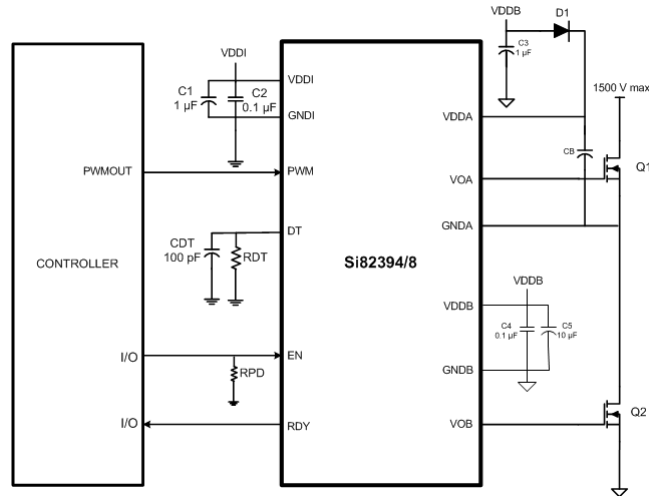

Figure 3.1. Si82394/8 Application Diagram
All high-side/low-side drivers (Si82394/8) include programmable dead time, which adds a user-programmable delay between transitions of VOA and VOB. When enabled, dead time is present on all transitions. The amount of dead time delay (DT) is programmed by a single resistor (RDT) connected from the DT input to ground per the equation below. Note that the dead time pin should be connected to GND1 through a resistor between the values of 6 k Ω and 100 k Ω and a filter capacitor of 100 pF in parallel as shown in Figure 3.1 Si82394/8 Application Diagram on page 14. It is highly recommended it not be tied to VDD1. See Figure 2.18 Dead Time Waveforms for High-Side/Low-Side Drivers on page 13 below.